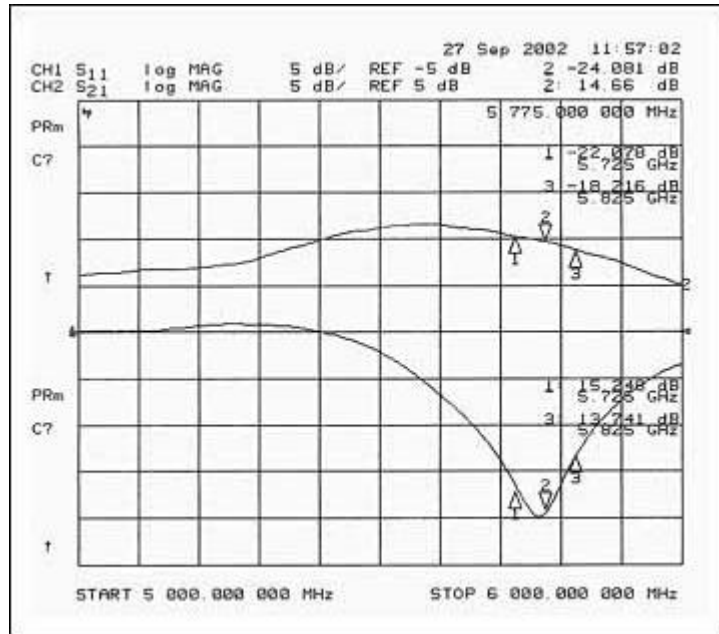

Figure 5. The MAX2840 5.8GHz power amplifier input return loss and gain vs. frequency ( $V_{DAC} = 1.6V$ ).
- **Input Match and Gain.** Figure 5 demonstrates the input return loss and gain of the device from 5 to 6GHz.